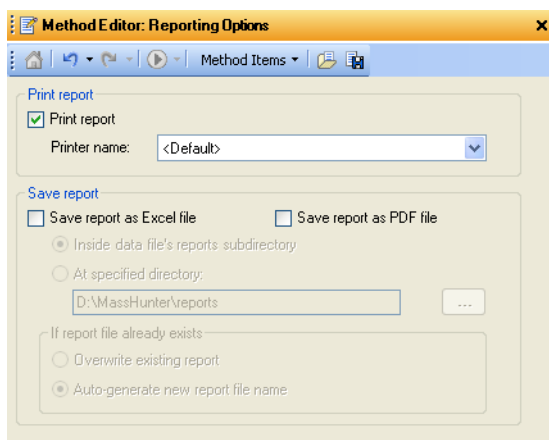

Figure 9 Reporting Options
- b In the Method Editor, in the Reporting Options section, set your reporting options. See Figure 9.